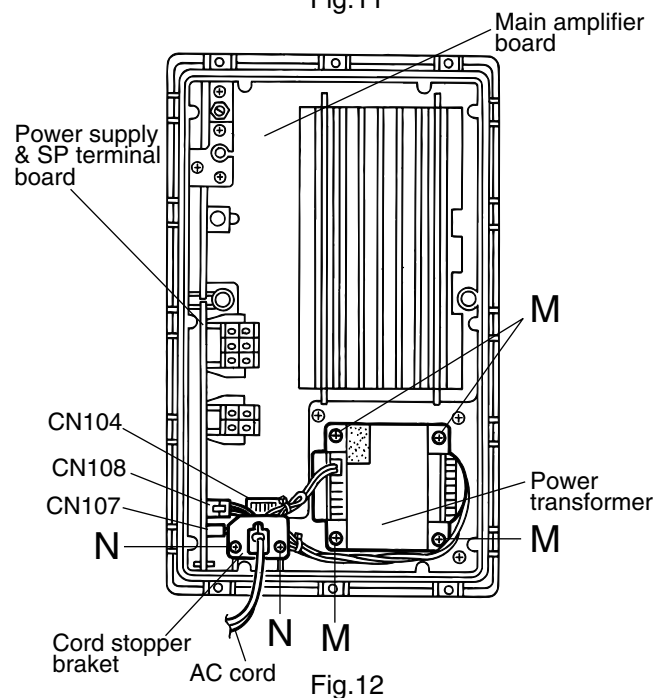

Fig.12
■ Removing the power transformer (See Figs.12 and 13)
• Prior to performing the following procedure, remove the heat sink cover, the amplifier assembly, the amplifier cover, the preamplifier board, the power supply & SP terminal board, the main amplifier board, the power amplifier board (A) and power amplifier board (B).
■ Removing the AC power cord (See Fig.12)
• Prior to performing the following procedure, remove the heat sink cover, the amplifier assembly, the amplifier cover, the preamplifier board, the power supply & SP terminal board, the main amplifier board, the power amplifier board (A), the power amplifier board (B) and power transformer.